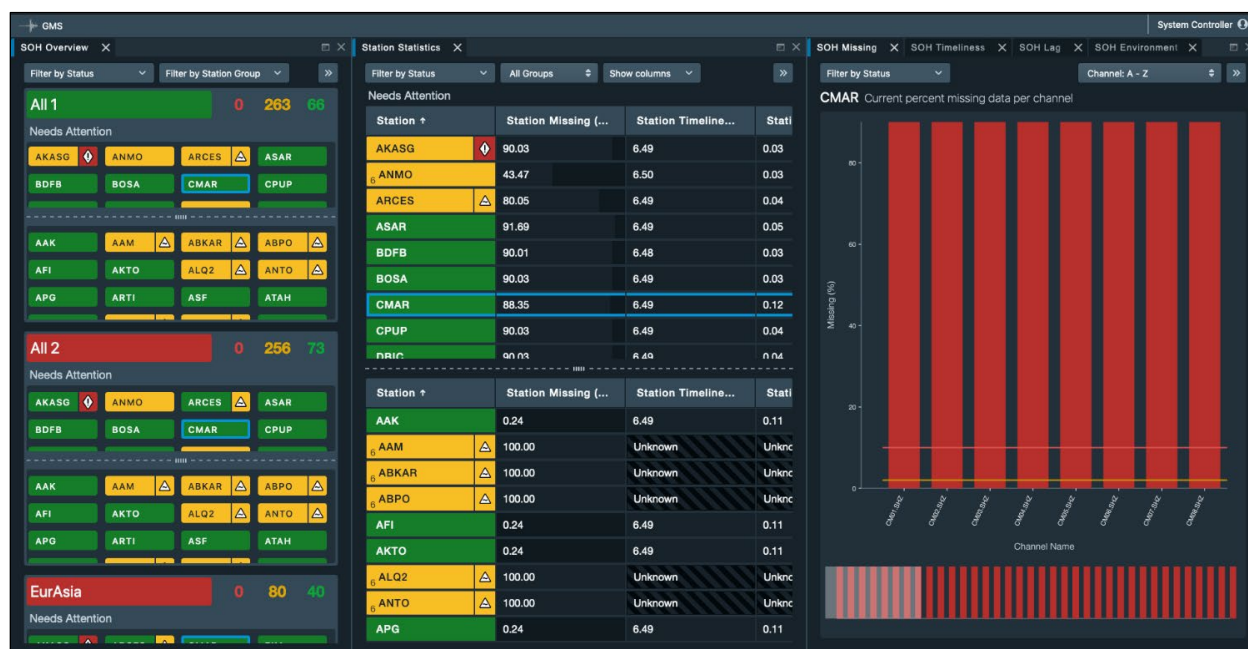

Figure 2. Default Workspace Layout of the SOH UI.
After logging in, the user will be taken to the default SOH UI workspace layout (Figure 2).
- SOH Overview (Figure 2; left)
- SOH Station Statistics (Figure 2; center)
- SOH Missing, SOH Timeliness, SOH Lag, and SOH Environment (Figure 2; right)
- i)** This restores the workspace layout to the default layout (Figure 2) unless a personalized layout was made default by the user (see Section 5.1).
- i)** This restores the default workspace layout (Figure 2). If another workspace layout was saved as the default (see Section 5.1), this will restore to the saved default layout.
- b) Clear Layout – Resets the UI display to the default layout. This option resets the UI to the layout shown in Figure 2 if the user does not have a default custom layout.